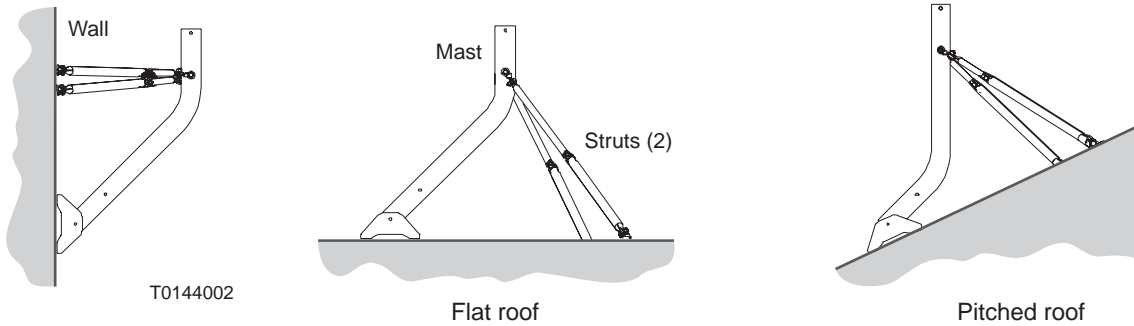

Figure 10: Tri-mast in various configurations
***Tri-mast (or other antenna mount)*** Although the tri-mast is not part of the antenna kit, it is described here because it is the most commonly used mounting option for the AN8-098R Ka-band antenna. As shown in Figure 10, the tri-mast can be positioned in a number of configurations to adapt it for mounting onto surfaces of various angles. For other suitable antenna mounting options, see the HughesNet *Antenna Site Preparation and Mount Installation Guide* (1035678-0001).